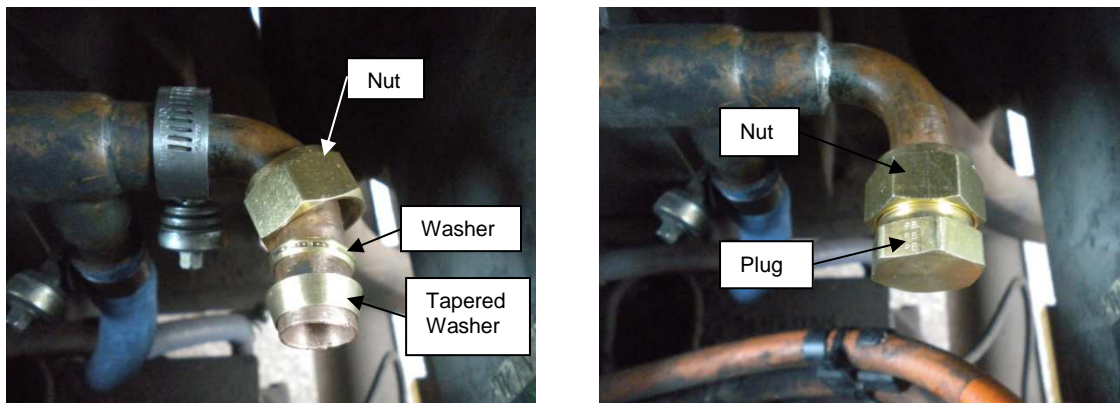

Figure 3: Bypass Tube Plug Installation.
- c. Install the nut, washer and tapered washer from the cap NF P/N 6431573 over the tube. Fig 3, Picture #1.
- d. Push the plug into the end of the tube and install the nut on the plug finger tight then turn an additional 1/4 turn. Fig 3, Picture #2.